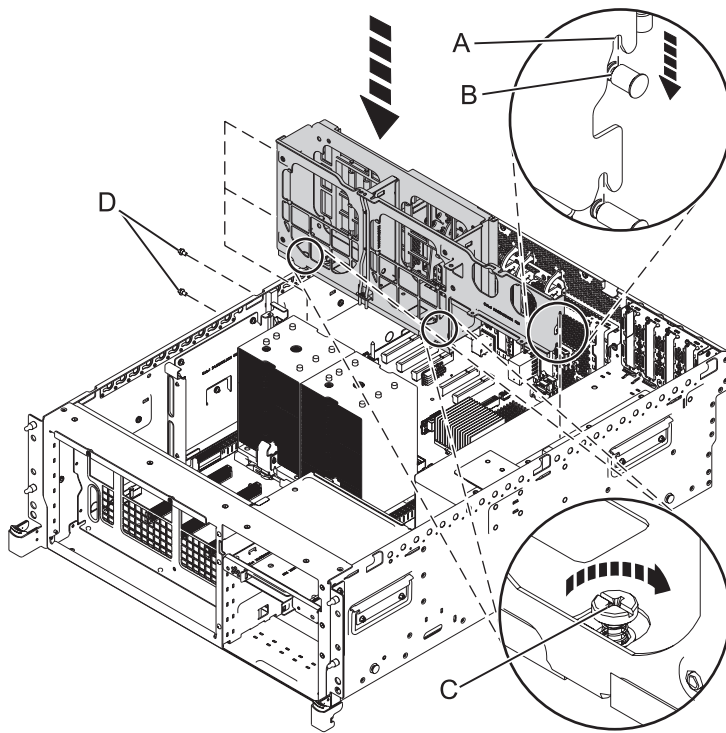

Figure 43. Installing the fan cage
- a. Lower the fan cage into position ensuring that alignment groove (A) and alignment pin (B) are correctly aligned. See Figure 43.
- b. Tighten the two screws (D) that secure the fan cage to the system chassis.
- c. Tighten the screws (C) that secure the fan cage.